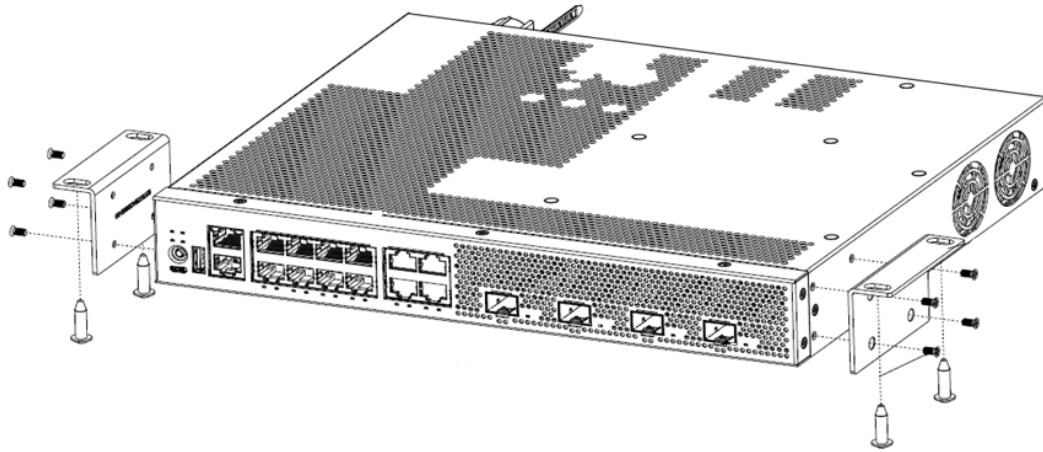

Figure 45: Under the Table Mount: Attaching a switch under a table
4. Using rack mount screws, attach a mounting ear to the left side of the switch, at the front end. Figure 45 shows the attachment of the screws.